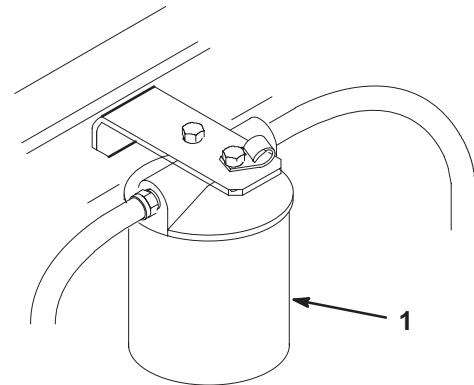

Figure 56
4. Place drain pan under filter, remove the old filter and wipe the filter adapter gasket surface clean (Fig. 56).